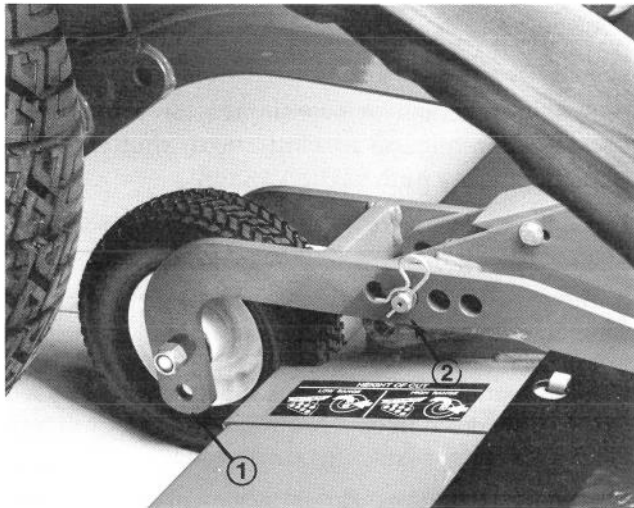
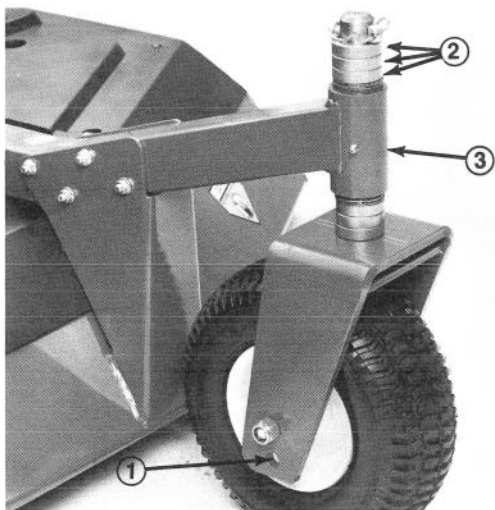

Figure 64
Figure 65
1. Adjust cutting unit to highest height—of—cut. Position castor wheel axles in lower castor fork holes (Fig. 64, 65). If checking front cutting unit, reposition two rear castor's clevis pins to highest height—of—cut setting (Fig. 64). On the front castors, move all castor spacers to the underside of the castor arms (Fig. 65). To check outboard units, move all castor shaft spacers to the underside of the castor arms and castor wheel axles to lower castor fork holes.